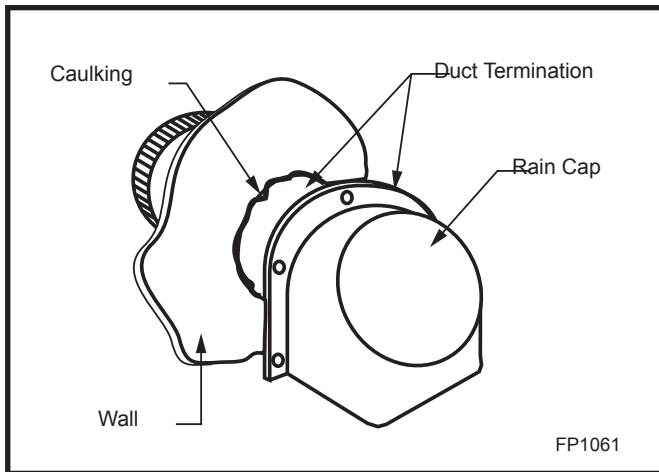

Fig. 14 Caulk and install duct termination/rain cap in place.
- At the termination end, install the duct termination. This should be installed from the outside of the home. Cut a hole in the desired location approximately 4½" in diameter, caulk around the hole, and slide the termination through the opening from outside the home. The termination/rain cap should be caulked around its perimeter to assure a tight seal. The rain cap opening should be positioned downward. (Fig. 14)